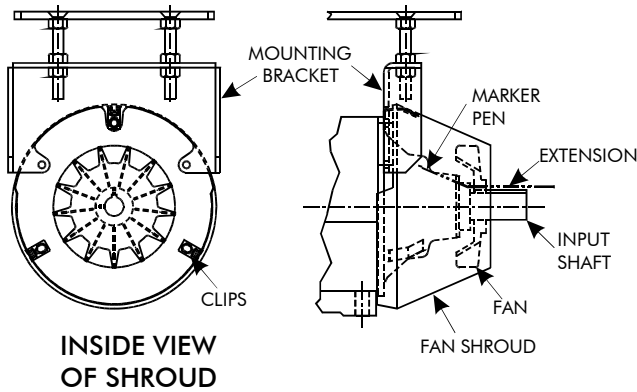

Figure 4 Shroud Clips Positions with Fan Shroud
- With a marker on an extension rod, go between the fan and the shroud to mark the position of the shroud clips. Reference Figure 4.